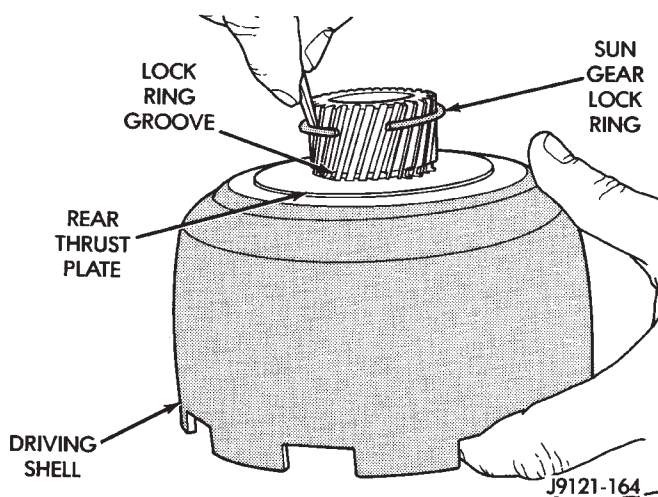

Fig. 173 Installing Sun Gear Lock Ring
(11) Align rear thrust plate on driving shell and install sun gear lock ring. Be sure ring is fully seated in sun gear ring groove (Fig. 173).